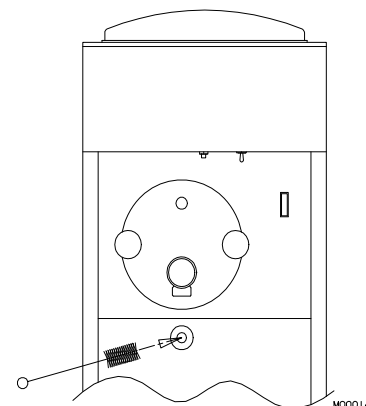

Figure 6-8
5. With the dish detergent solution thoroughly brush the inside of the hopper, the mix feed port to the cylinder, the drain tube (figure 6-8), and the inside of the cylinder making certain to clean the back wall of the cylinder. Rinse with clean water.